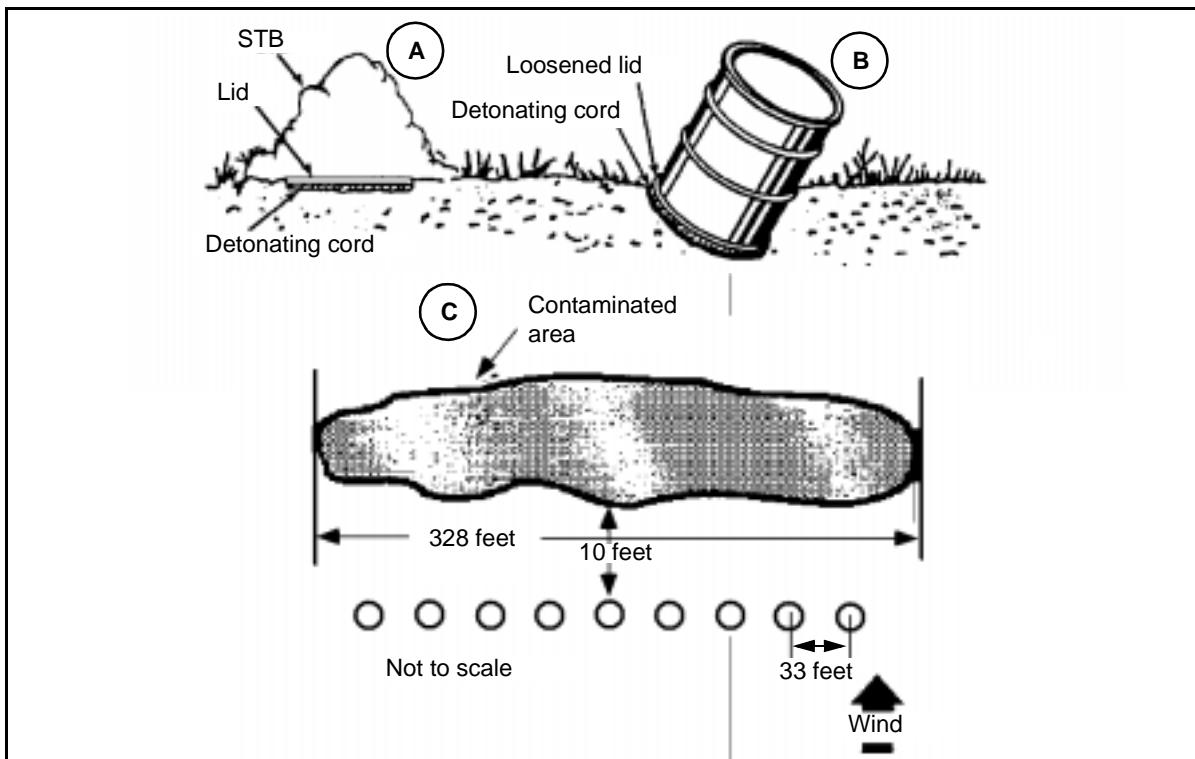

Figure 5-1. Two Methods of Emplacing Dry STB for Distribution by Detonation
- First method. Remove the holding band and loosen the lid of the bleach drum. Set the drum with the lid in place upside down over about 3 feet of looped detonation cord. Remove the drum and leave the bleach piled on the lid as shown in Figure 5-1, A, page 5-4. Lids may be fired in a series with a single strand of detonation cord connecting the loops.
- Second method. Remove the holding band and loosen the lid of the bleach drum. Set the drum in a shallow hole as shown in Figure 5-1, B. Make sure the lid is loose. Use 5 feet of looped detonating cord (7 feet in soft ground) for each drum. The drums may be fired individually or in a series. For gross contamination, additional firings may be necessary.
5-20. For either emplacement method, the suggested spacing for charges is 33 feet apart for a 100-foot-front contaminated area. The charges should be placed along the upwind edge of the contaminated area (see Figure 5-1, C).